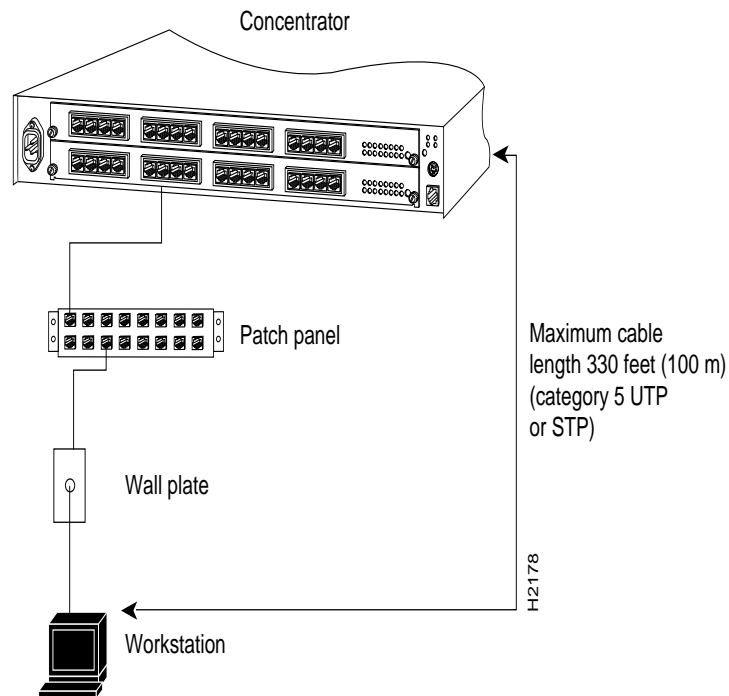

Figure 3 Category 5 UTP and STP Distance Requirement
- Data-grade unshielded twisted-pair (UTP)—Electronic Industries Association/Telecommunications Industries Association (EIA/TIA)-568 category 5, data-grade, modular cable is required for CDDI installations. The total length of data grade UTP cable from the switch to another switch, station, or CDDI concentrator must not exceed 330 feet (100.6 m), including patch cords and cross-connect jumpers. (See Figure 3.)
- Shielded twisted-pair (STP) wiring—You must use IBM Type 1 STP wiring for your CDDI installation. The total length of STP cable measured from the adapter or media access unit (MAU) to the switch must not exceed 330 feet (100.6 m). (See Figure 3.)